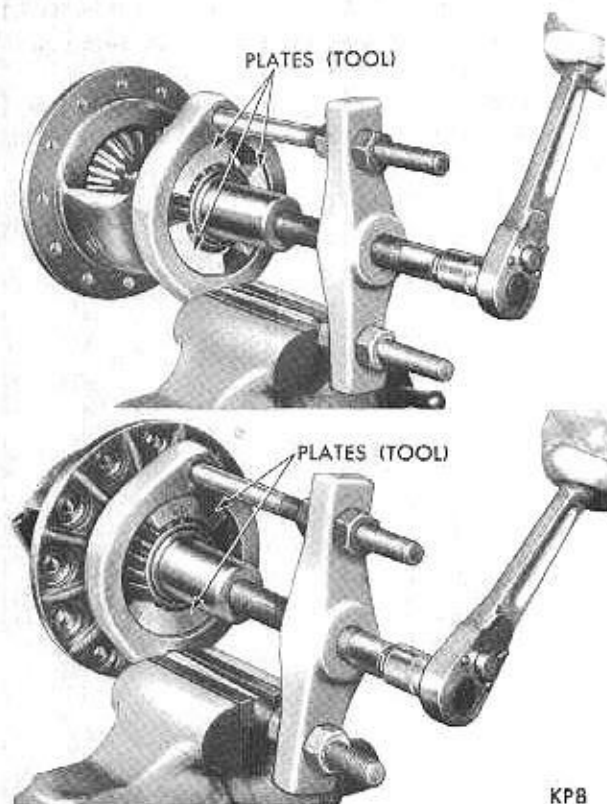

Fig. 23—Removing Differential Bearings
(2) Inspect differential bearing cones, cups and rollers for pitting, spalling or other visible damage. If replacement is necessary, remove bearing cones from differential case with Tool C-293 and adapter plates No. 43 (Fig. 23).
(3) Inspect differential case for elongated or enlarged pinion shaft hole. The machined thrust washer surface areas and counterbores must be smooth and without metal deposits or surface imperfections. If any of the above conditions exist, satisfactory correction must be made or the case replaced. Inspect case for cracks or other visible damage which might render it unfit for further service.
(4) Inspect differential pinion shaft for excessive